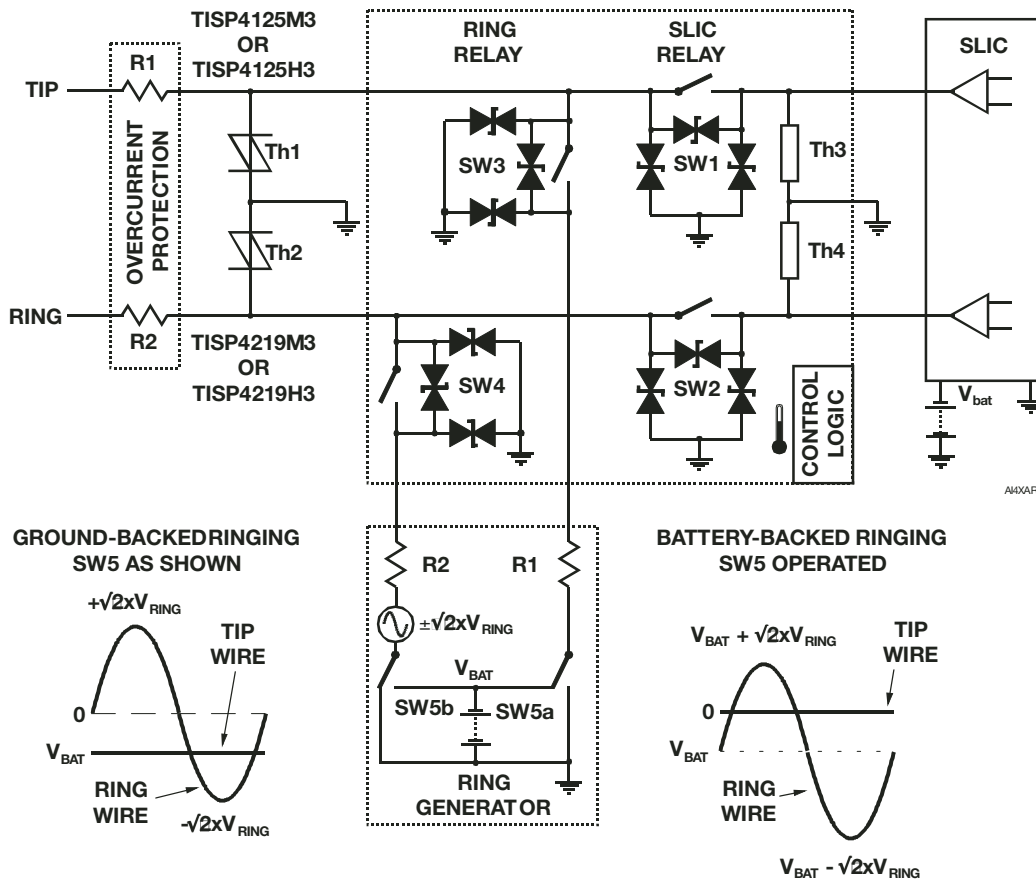

Figure 13. LCAS Shown with Switch Breakdown Limits
Figure 13 shows the LCAS switch voltage ratings as breakdown diodes, which must not be allowed to conduct. Each switch has three diodes; one between poles and the other two from each pole to ground. At 25 °C, switches SW1 through to SW3 have breakdown diode voltages of ± 320 V. Switch SW4 has breakdown diode voltage values of ± 465 V for the one between poles and ± 320 V for the two diodes connected to ground. Note that only protection to ground is required, as in the limit, the inter-switch voltage limitation of ± 640 V is the same as the switch to ground limitation of $+320$ V and -320 V in both polarities.
- ground-backed and battery-backed ringing configurations (see Figure 13).